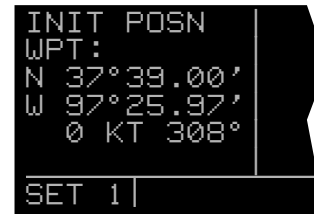

Figure 3-57
1. Select the Setup 1 page (**SET 1**) by first turning the left outer knob to display a **SET** type page. Next, turn the left inner knob until the **SET 1** page is selected (figure 3-57).